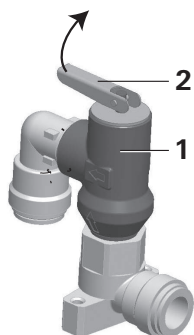

Fig. 7
- Before lifting the test lever (Fig. 7 – 2), make sure that the discharge line is securely attached and properly installed, to prevent injury and property damage.